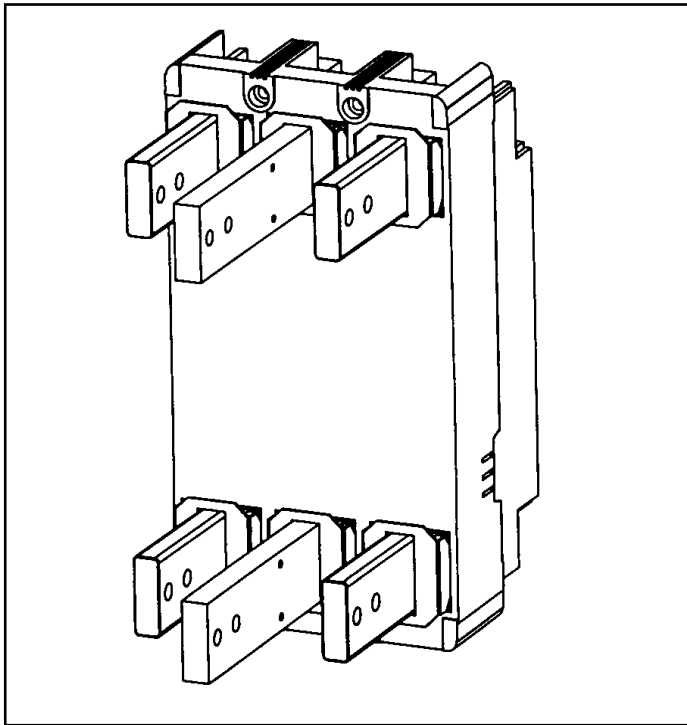

Figure 2-4. 1600 Amp Rear Connectors and Barriers Installed (Required for 1600 Amp Rear Connect Breakers and Molded Case Switches).
- Install the barriers, covering the ends of the hardware and connectors. Position the barriers so that the flaps are firmly set between the connectors and the edge of the base molding, (figure 2-4).